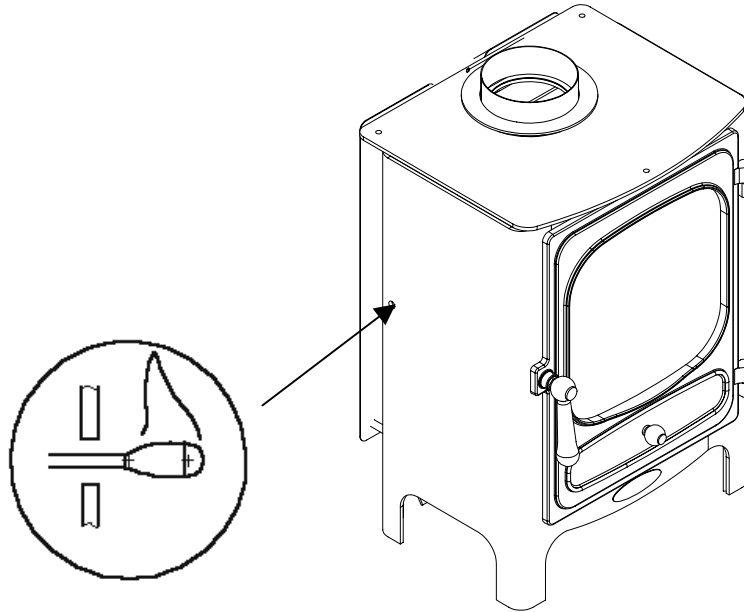

Fig. 6 Smoke match test point
3. After approximately 5 minutes place a smoke match into the 10mm diameter hole at the rear of the left-hand side of the stove as shown in Fig 6. Ensure that no smoke is forced out of the hole, which will indicate spillage. If spillage is detected, operate the fire for a further 10 minutes and repeat the test. If spillage is still detected introduce ventilation into the room by opening a window or door. If spillage is no longer detected then purpose made ventilation with a minimum area of 100 sq.cm must be provided. If after introducing ventilation into the room spillage is still detected the cause must be discovered and the fault corrected. If the fault cannot be corrected, disconnect the gas supply to the appliance and seek expert advice. Possible causes of spillage are chimney restrictions, or an incorrect cowl or terminal.